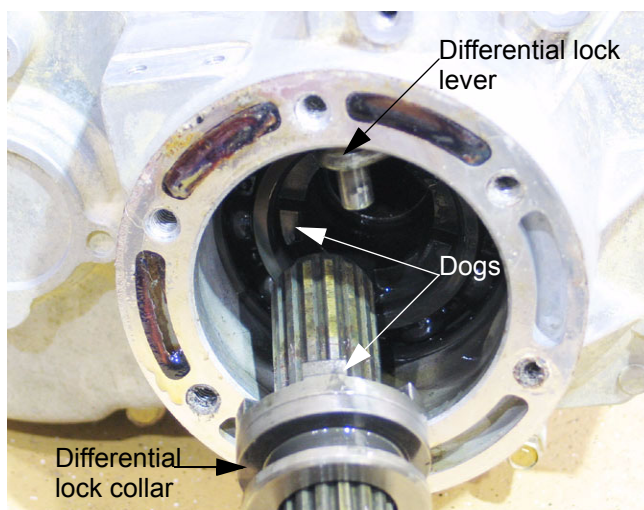

Figure 9.14
9.14. The left side axle shaft passes through the differential lock collar. The dogs on the collar are driven by dogs on the differential when the differential lock is engaged. See Figure 9.14.